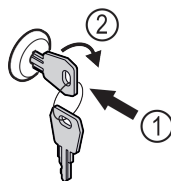

Fig. 182
- Insert the key. Fig. 182 (1)
- Turn the key clockwise by 90°. Fig. 182 (2)